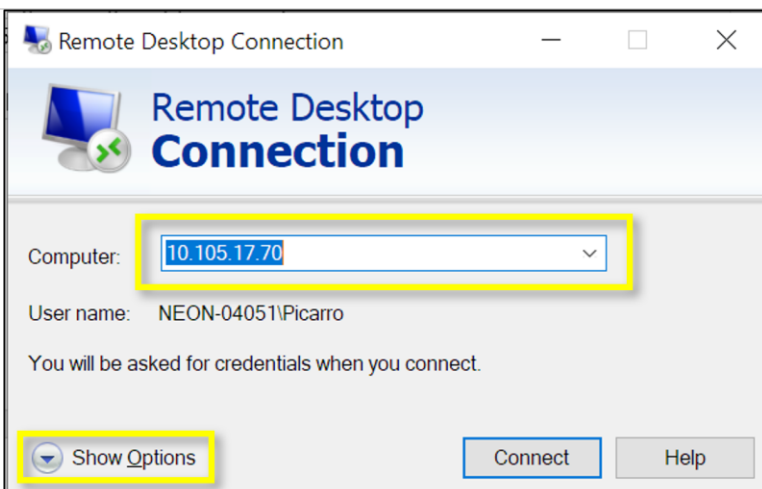

Figure 262. Windows Remote Desktop Connection Pop-up Window.
STEP 4 | Enter the IP address to the PICARRO Analyzer into the Dialog Box and click **Show Options** (**Figure 262**).